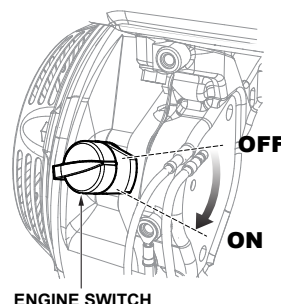

Figure 21. Engine ON/OFF Switch (ON)
5. Turn the engine switch (Figure 21) to the **ON** position.